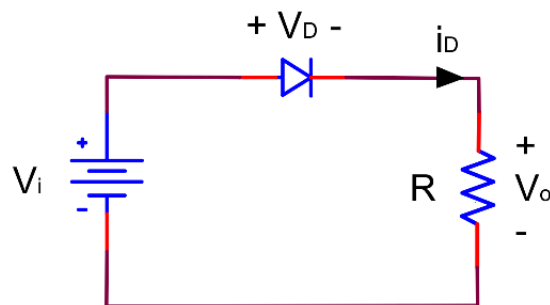

Figure 2.4
- Referring to Figure 2.4, assume that $v_i = V_m \cos \omega t$ and sketch v_o using the following models for the diode: